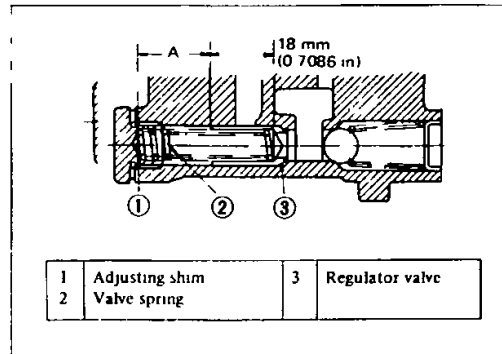

Fig 74 Regulator valve
Insert valve in the body and measure the distance (A) from the valve end to the spring contacting face inside the plug See Figure 74